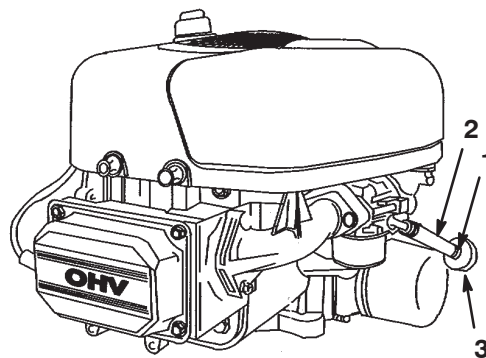

Figure 28
- Squeeze the ends of the hose clamp together and slide it up the fuel line toward the fuel tank (Fig. 28).
- Pull the fuel line off of the filter (Fig. 28) and allow the gasoline to drain into a gas can or drain pan.
The best time to replace the fuel filter (Fig. 28) is when the fuel tank is empty. Never install a dirty filter if it is removed from the fuel line.
4. Squeeze the ends of the hose clamps together and slide them away from the filter (Fig. 28).